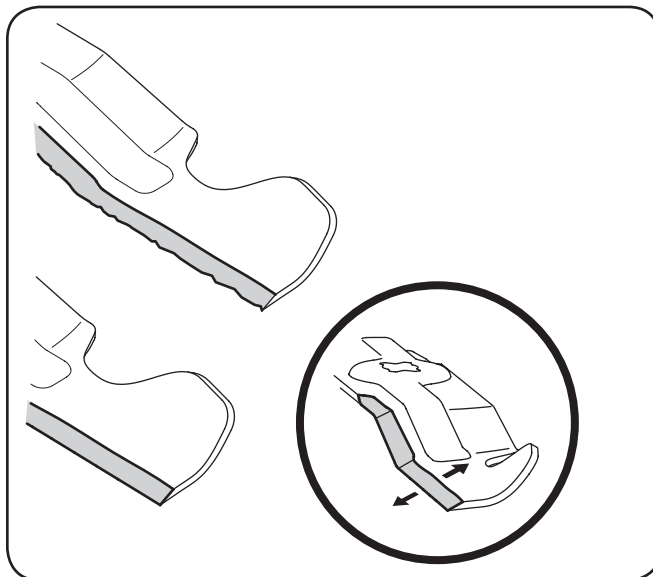

Figure 7-10
4. To properly sharpen the cutting blades, remove equal amounts of metal from both ends of the blades along the cutting edges, parallel to the trailing edge, at a 25°- 30° angle. Always grind each cutting blade edge equally to maintain proper blade balance. See Figure 7-10.